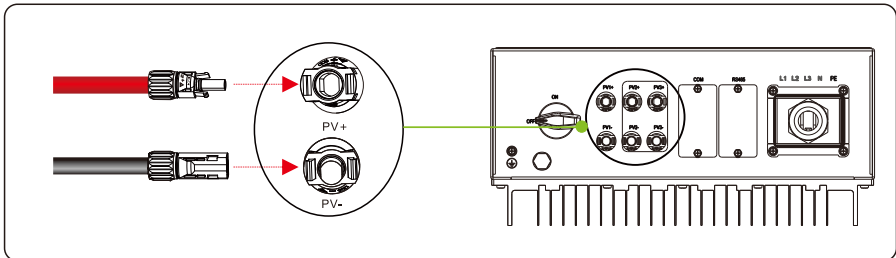

Figure 5.16 Connecting to the inverter
Step 6 Insert the positive and negative connectors into their corresponding terminals of the inverter until a "click" sound is heard, as shown in Figure 5.16.